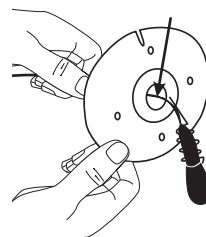

Figure 1
1. Pass the microphone through the hole in the mounting plate (Figure 1).